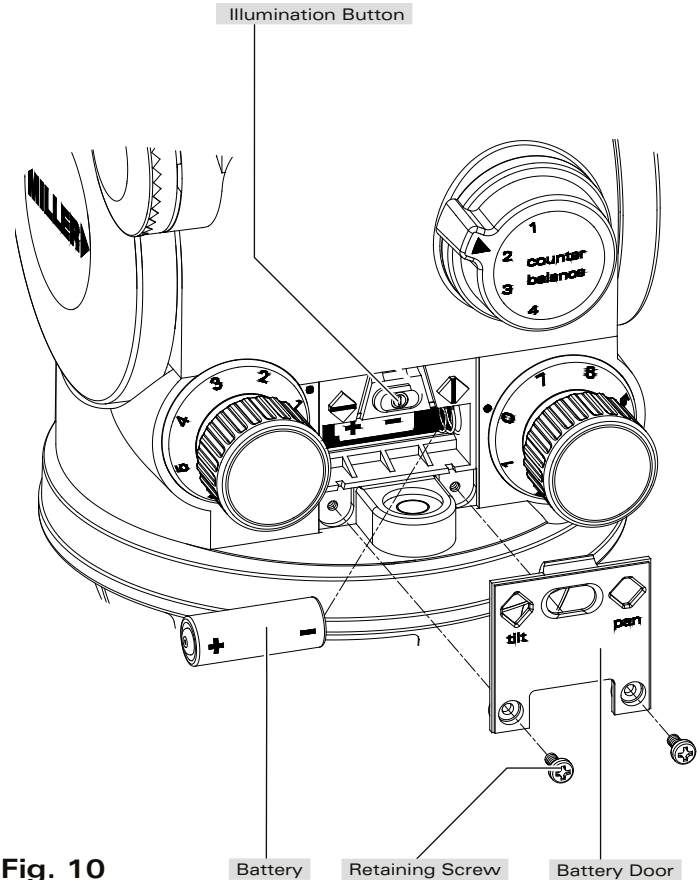

Fig. 10
- ▶ Insert the new battery as shown in figure 10.